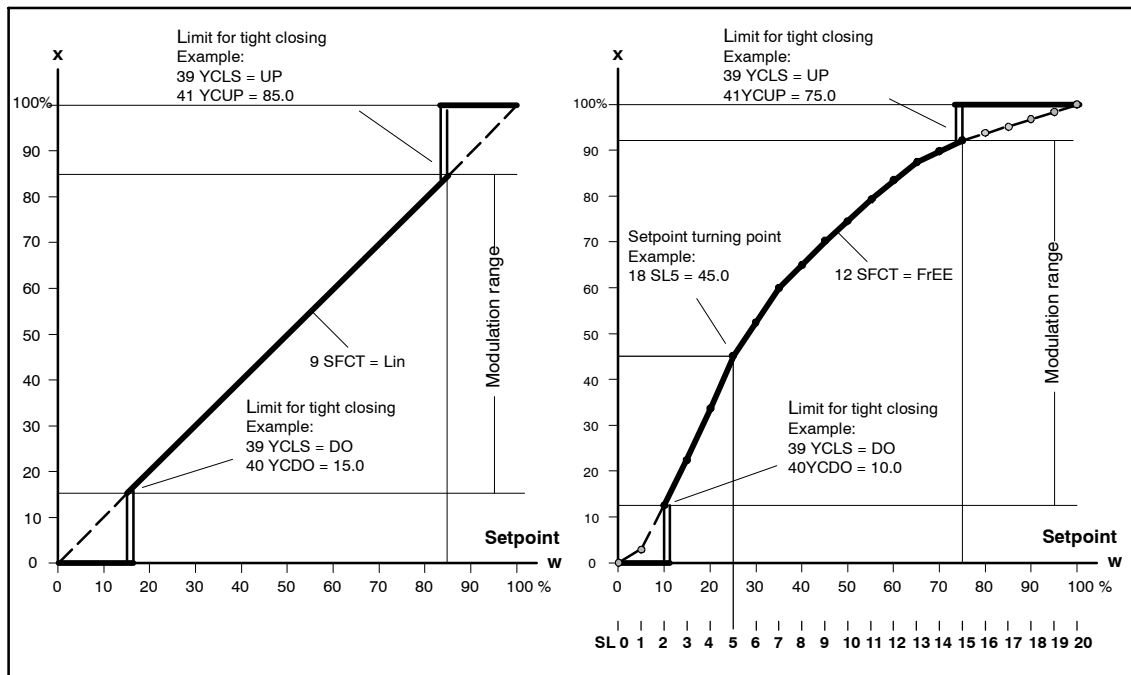

Figure 4-9 Setpoint characteristic, manipulated variable standardization and tight closing function
- 12.SFCT Setpoint function (see figure 4-9, page 102)
Manipulated variable limiting start (see figure 4-9 and 4-10)
Manipulated variable limiting end (see figure 4-9 and 4-10)
Manipulated variable standardization (see figure 4-9 and 4-10)
Tight closing with manipulated variable (see figure 4-9, page 102)